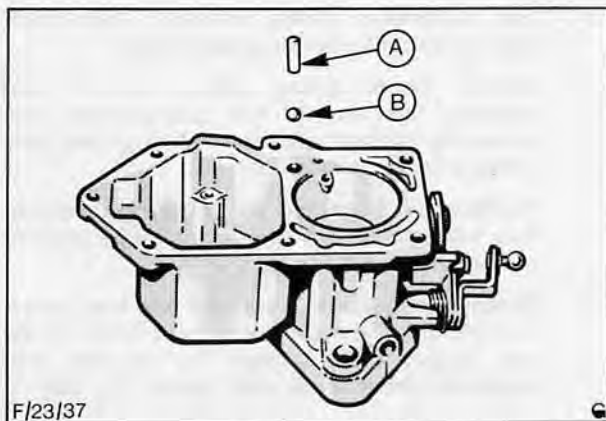

Fig. 39. A – Accelerator ball valve weight
3. Remove accelerator ball valve and weight by turning carburettor upside down and allowing weight and ball to fall out, Fig. 39.
18. Refit accelerator ball and weight, Fig. 39.